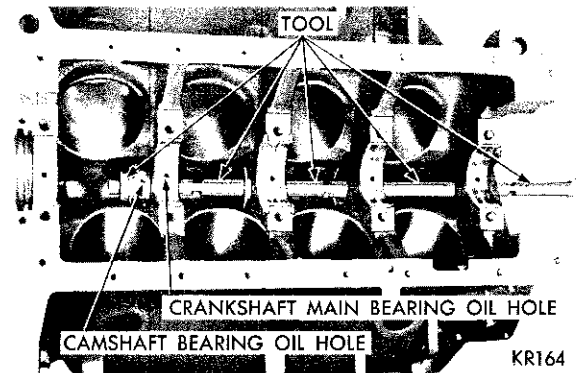

Fig. 30—Removing Camshaft Bearing Using Tool C-3132A
(1) With the engine completely disassembled, drive out the rear camshaft bearing welch plug.
(2) Install the proper size adapters and horse shoe washers (part of Tool C-3132A) at the back of each bearing to be removed and drive out the bearings (Fig. 30).
(1) Install the new camshaft bearings with Tool C-3132A. Place the new camshaft bearing over the proper adapter.
(2) Position the bearing in the tool. Install the horse shoe lock and by reversing the removal procedure, carefully drive bearing into place, as shown in Figure 30.
(3) Install the remaining bearings in like manner.
The oil holes in the camshaft bearings and the cylinder block must be in exact register to insure proper lubrication (Fig. 30).